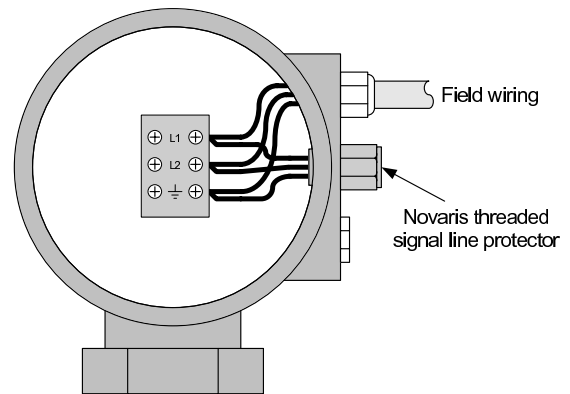

Figure 4: Typical installation of the threaded signal line protector.
- 5.1** Novaris threaded signal line protectors are designed to be installed in zone 0,1 and 2 hazardous locations. Typically, the surge protector is installed into a spare gland hole on a field instrument. An example of this is shown in figure 4.